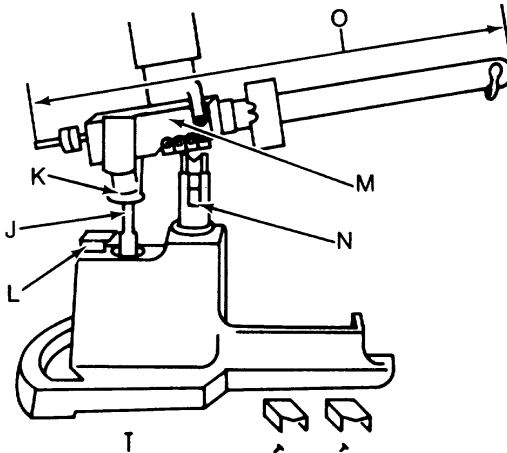

Figure 7. Base Assembly.
Refer to Figure 7 when assembling the Field Test Scale.
3. Hold beam assembly **O** in position shown in Figure 7 and lower loop **J** through the hole in the base. Be sure loop stop **k** swings under base stop **L** and then lower beam assembly so that fulcrum pivots **M** rest in center post.